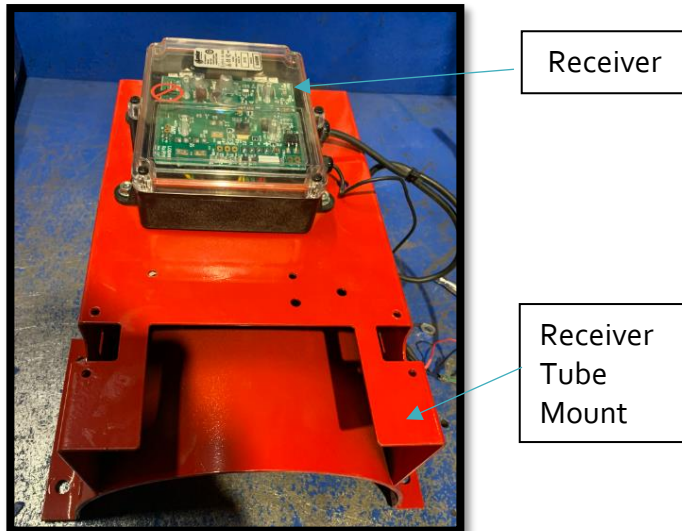

Figure 11: Receiver mounting onto Tube Mount Bracket
- Take part #203540RD/203542RD (10"/13" RECEIVER TUBE MOUNT) and Part #20135 (RECEIVER, REMOTE CONTROL – LODAR), use #14 X 5/8" Sheet Metal Screw (19274) to mount Receiver (20135) onto bracket (203540RD/203542RD) using impact gun with 3/8" socket as shown in Figure 11.